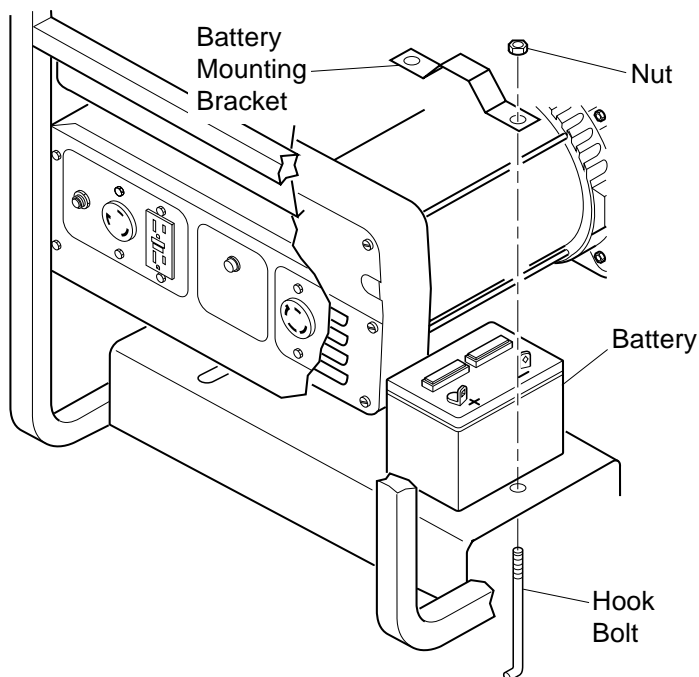

Figure 10 - Battery Hold-Down System
1. Secure battery to generator by battery hold-down system. This system consists of the battery mounting bracket, hook bolts, and nut (see Figure 10).